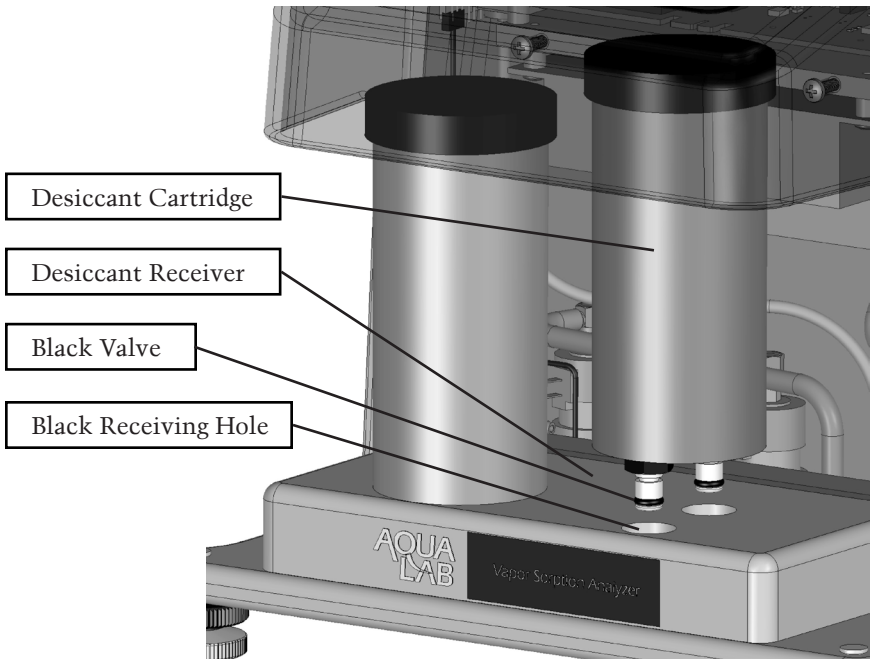

Figure 2: Desiccant installation
- Desiccant tubes are installed by orienting the tube so that the black colored valve inserts into the black receiving hole as shown in Figure 2. Before insertion make sure that the desiccant tube lid is firmly sealed onto the desiccant tube. (See Manual for instructions) Lift the tube into the area above the desiccant receiver and then insert the tube into the mating holes while shaking the tube slightly. Once in place, the desiccant tube is sealed for flow purposes and may move side to side if contacted.